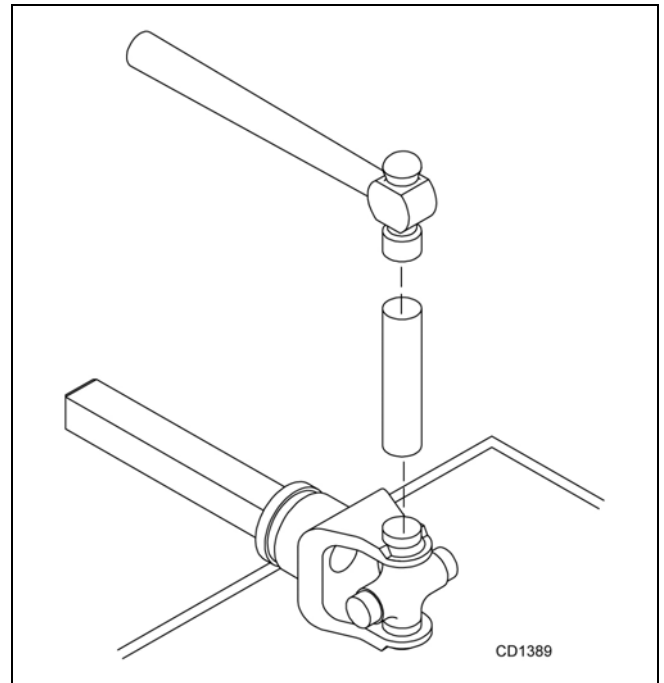

Figure 25. Install Cups
3. Seat cups by placing a drift or socket (slightly smaller than the cup) on cup and rap with a hammer. See Figure 25. Install snap ring and repeat on opposite cup